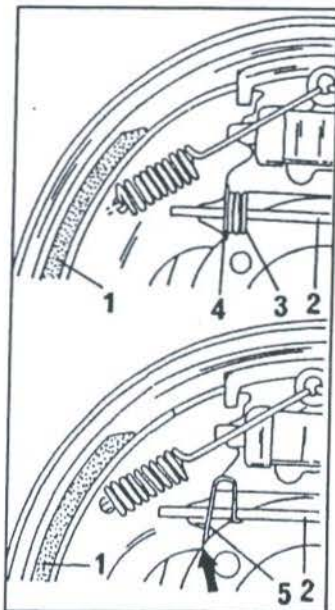

Fig. 7.15 – Arrangement of the springs on the push rod. In the upper view with MB adjuster, in the lower view with Perrot adjuster.
- If an MB adjuster is fitted, a compression spring with spring seat is fitted to the push rod, as it is shown in the upper view of Fig. 7.15.
- If a Perrot adjuster is fitted, neither the spring nor the spring seat are fitted. Instead a leaf spring is fitted, as shown in the lower view of Fig. 7.15.